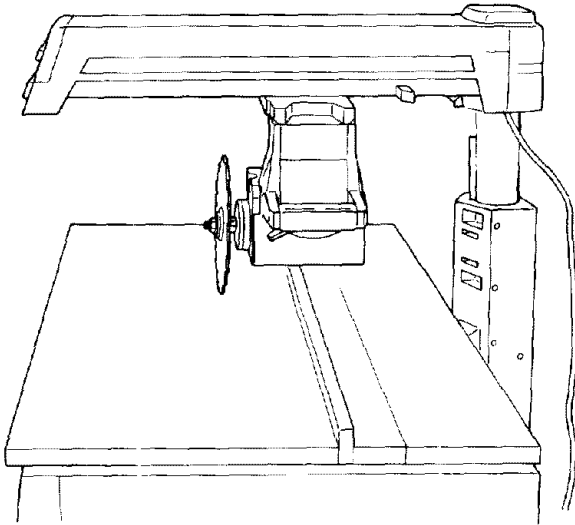

Fig. 87 - Out-rip Position
1. Unlock the *swivel lock* and turn the *motor* to the out-rip position with the *motor* between the *blade* and *fence*. (Figure 87)